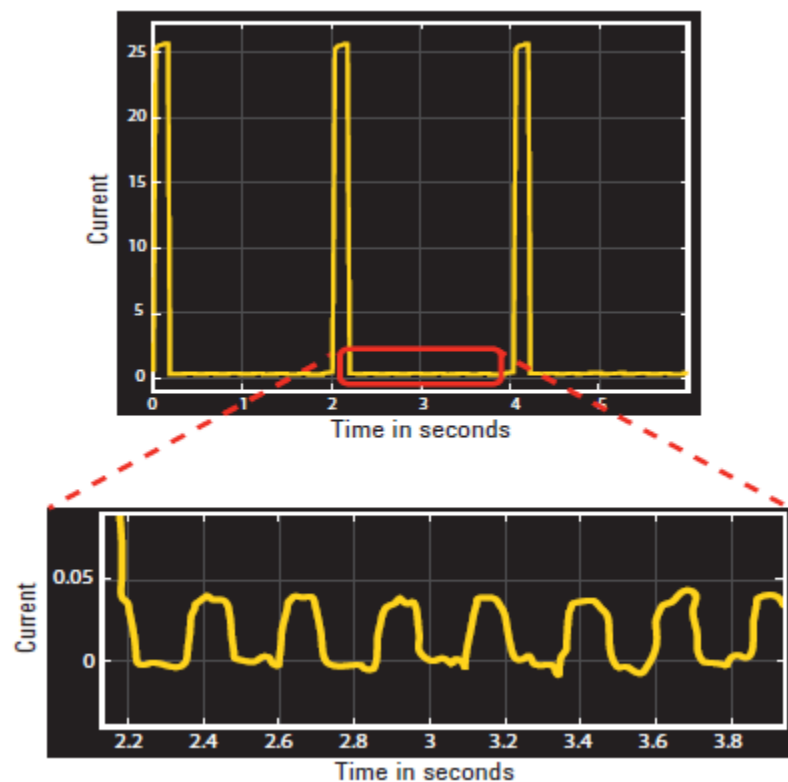

Figure 1. Dynamic current measurement
- Accurately capture dynamic current profiles: APS has two current measurement ranges that allow it to measure micro-amps to amps. The APS uses seamless ranging technology to transition from one measurement range to the other without discontinuities in the output power or in measurement data (see Figure 1).